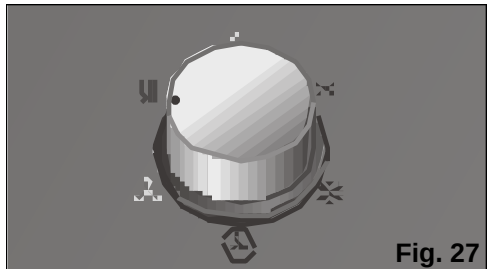

Fig. 27
- ❑ Select the heating function, **Fig. 27**.